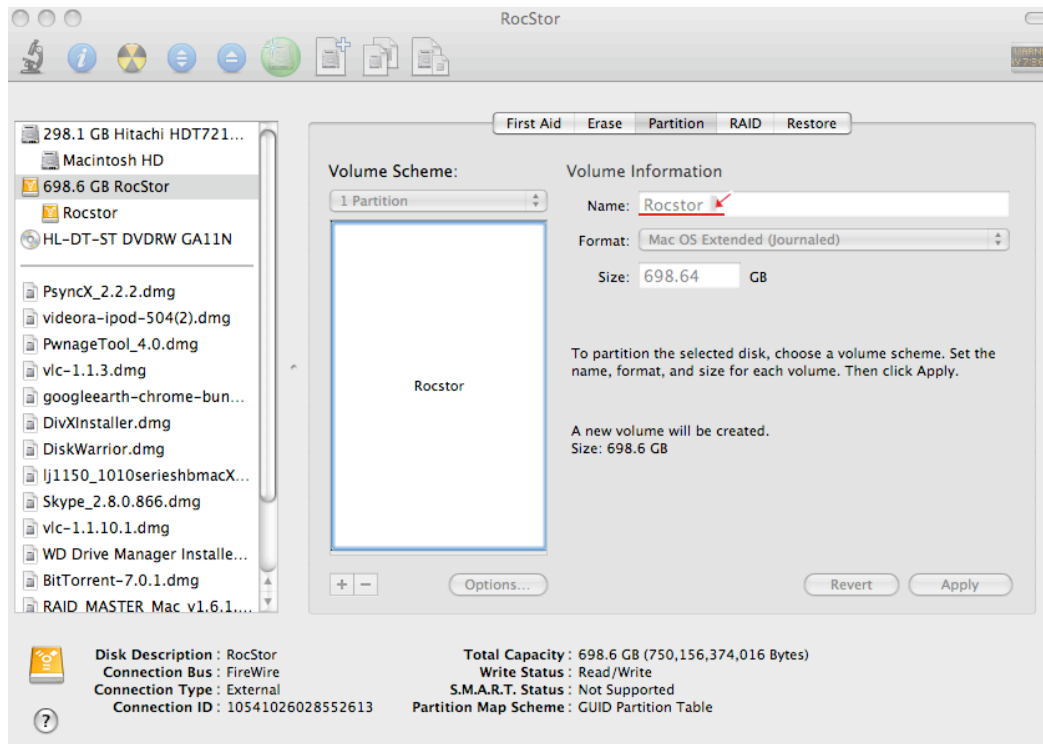

Figure 7.0
12. Volume Information: select a name for your drive (figure 7.0.)